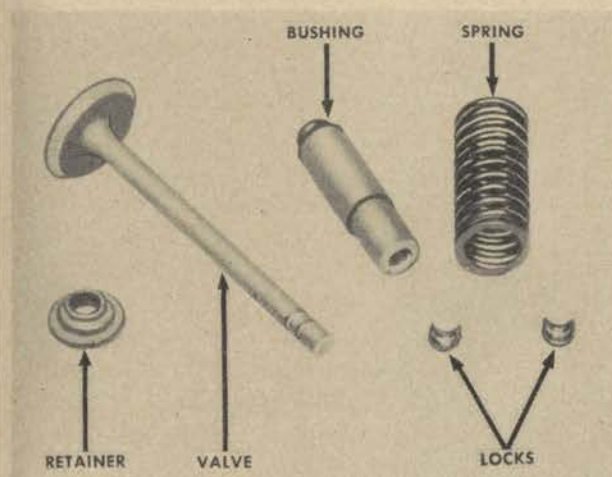

Figure 206. Valve assembly.
- (b) With a valve spring compressing tool, compress the spring (fig. 206) until the locks can be removed from the retainer. Lift